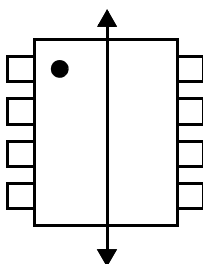

Figure 26. Cross-Axis Field Direction
9. External magnetic field immunity is improved by this factor if the field direction is end-to-end rather than pin-to-pin (see Figure 26).
Immunity to external magnetic fields is even higher if the field direction is end-to-end rather than pin-to-pin as shown in Figure 26: